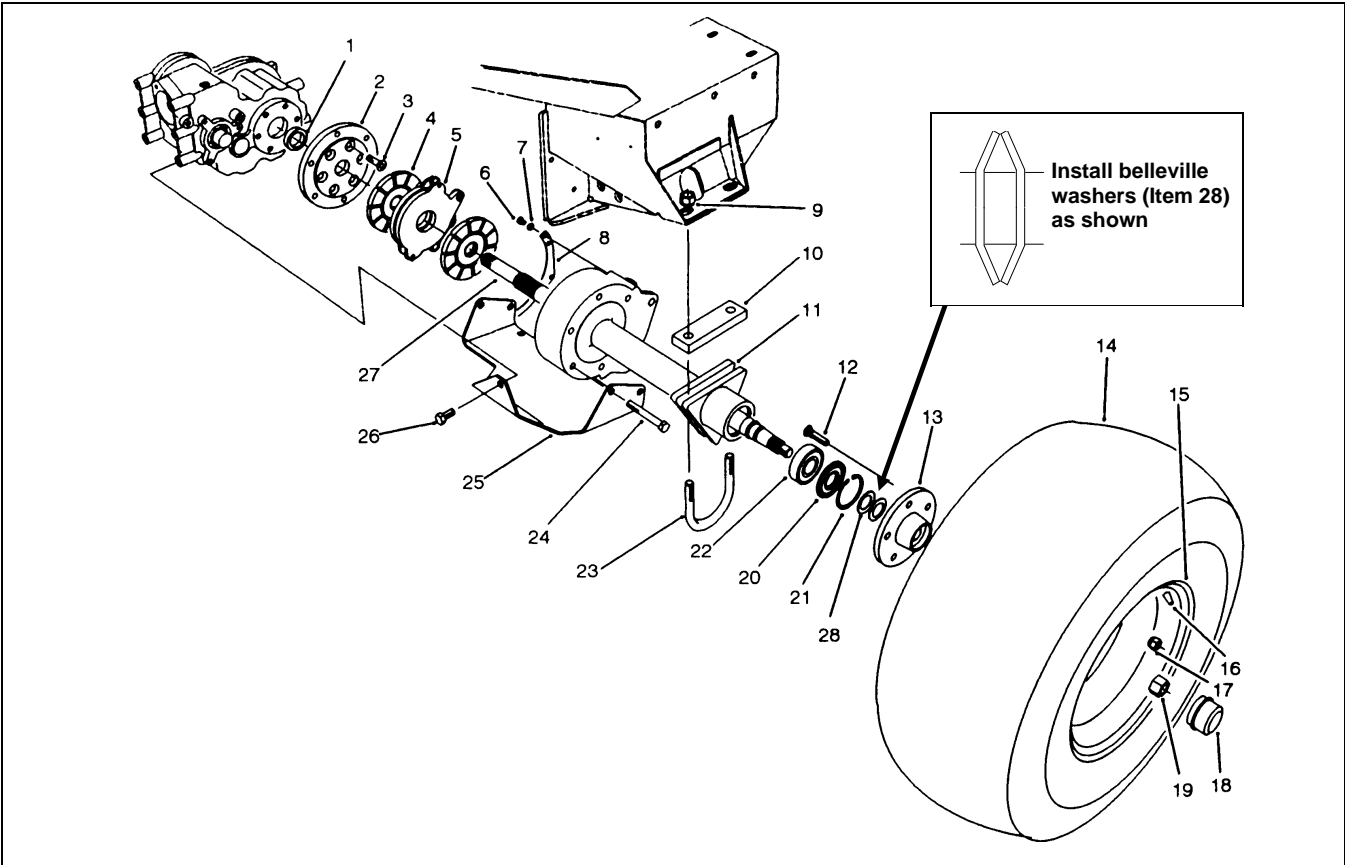

Figure 18
3. Remove front wheels. Remove nuts (Fig. 18, Item 19). Use a puller to pull each wheel hub (Item 13) off of shafts. Remove belleville washers (Item 28).
6. Remove capscrews (Fig. 18, Item 38) and disconnect hydraulic motor (Item 37) from transaxle. DO NOT disconnect hoses from hydraulic motor.
9. Support axle assembly, then remove U-bolts (Fig. 18, Item 23) securing axle to frame.
1. Remove skid plate (Fig. 18, Item 25).